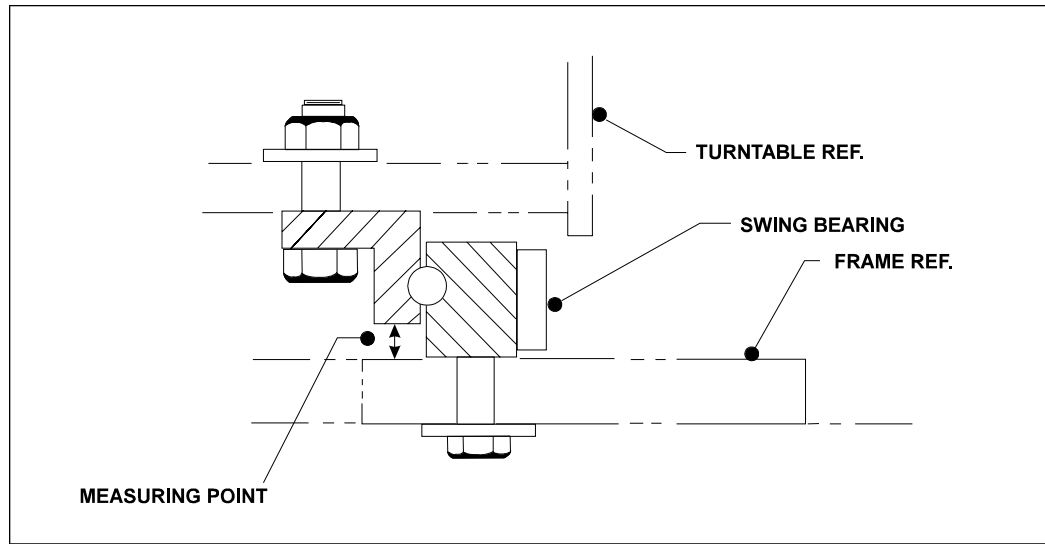
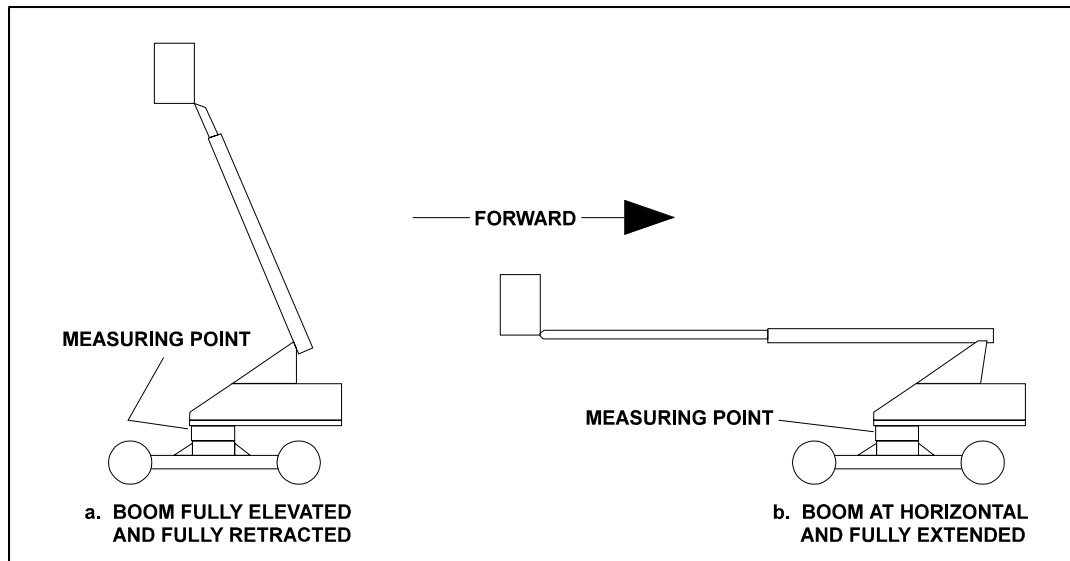

Figure 3-13. Swing Bearing Tolerance Measuring Point
Figure 3-14. Swing Bearing Tolerance Boom Placement
1. From the underside of the machine, at rear center, with the boom fully elevated and fully retracted (See Figure 3-14.), using a magnetic base dial indicator, measure and record the distance between the swing bearing and frame. (See Figure 3-14.)
2. At the same point, with the boom at horizontal and fully extended (See Figure 3-14.), using a magnetic base dial indicator, measure and record the distance between the swing bearing and frame. (See Figure 3-13.)